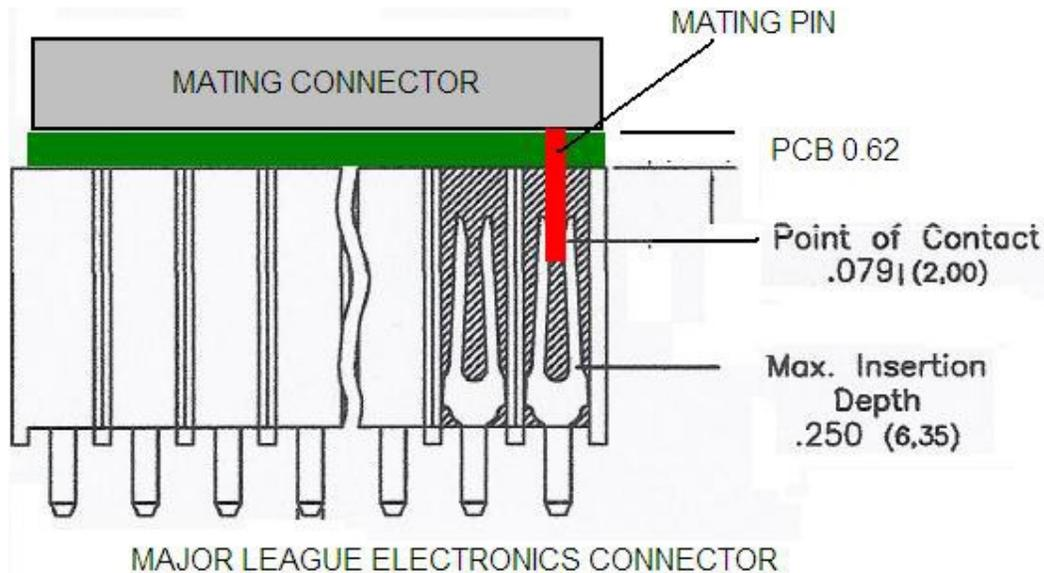

Figure 69 Connector Pin Insertion Depth
**Figure 69** shows the key measurements used in calculating how much the pin extends past the contact point on the connector, what we call overhang.